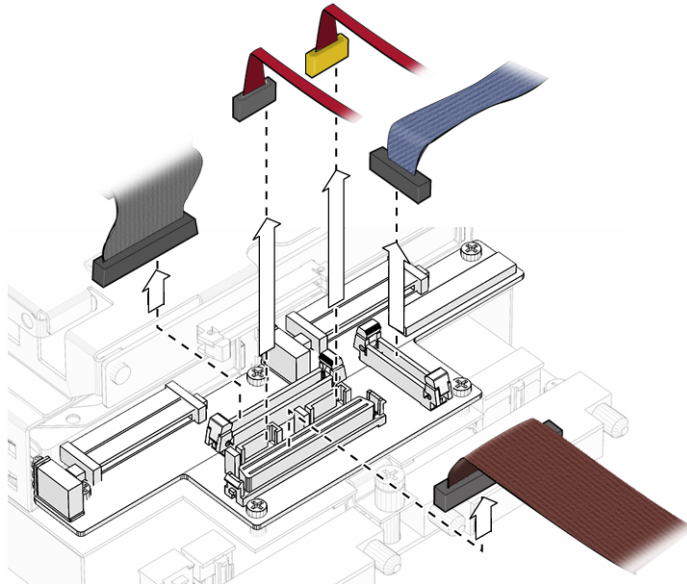

FIGURE 3-10 Disconnecting Cables From the Mass Storage Assembly
3. Disconnect the following cables from the mass storage assembly (FIGURE 3-10):